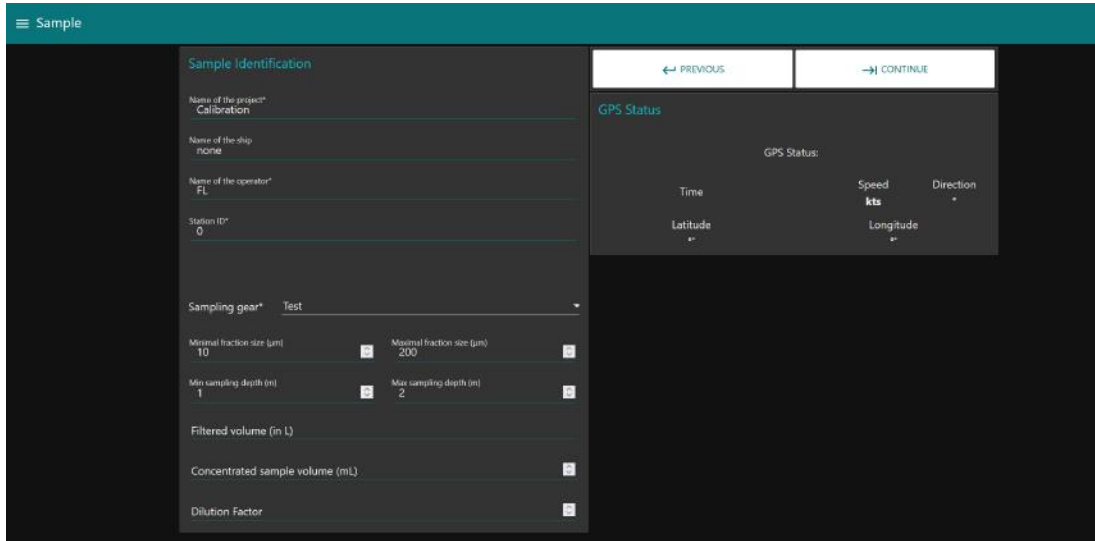

Figure 3: Example of metadata entered in the "Sample" tab
1. Fill metadata in the "Test" mode in the sample tab (Fig.3)